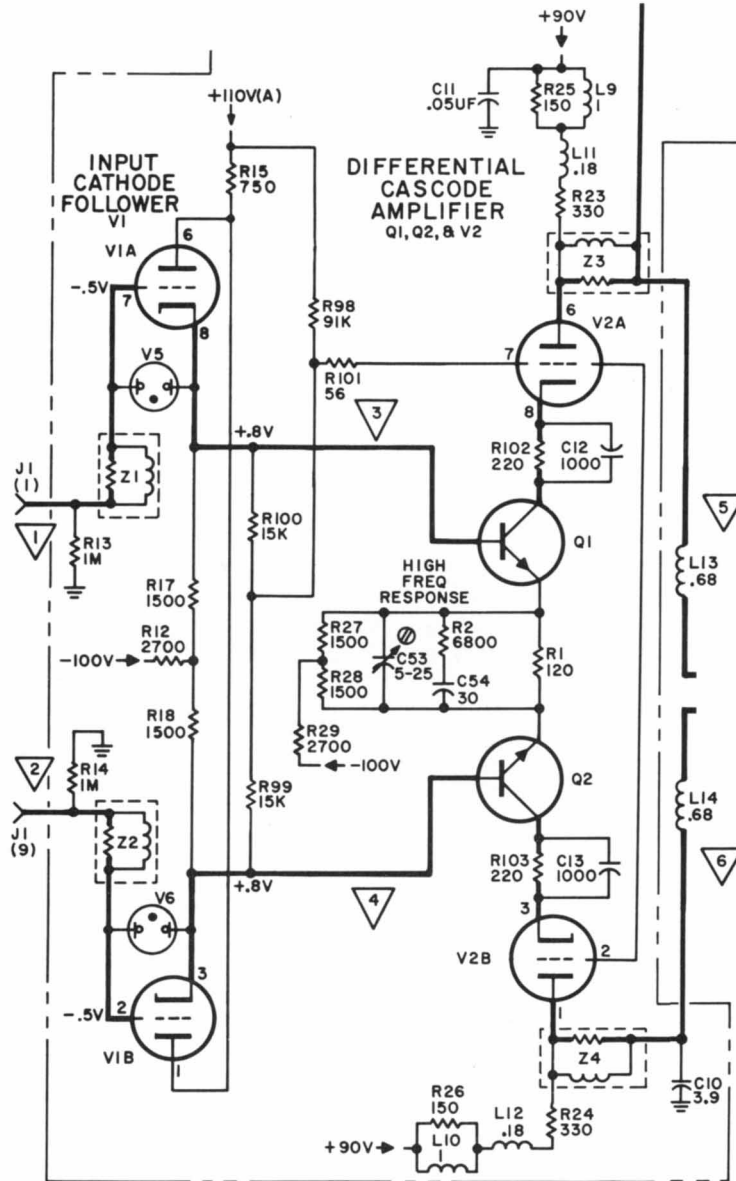

Figure 1. HP Model 175A Oscilloscope, Schematic of Modified Circuit
* Refer to Figure 1.
Note: Incorporate Figure 1, Adjustment Procedure Change, and Revisions to Table of Replaceable Parts with your Operating and Service Manual for future reference.